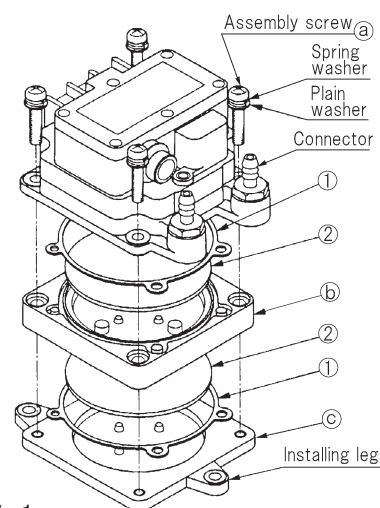

Fig.1
- Filters are constructed as shown in Fig.1.
- Insert four assembly screws ① into screw-holes as shown in Fig.1 and tighten the instrument body and cases ⑥ ⑦ firmly.